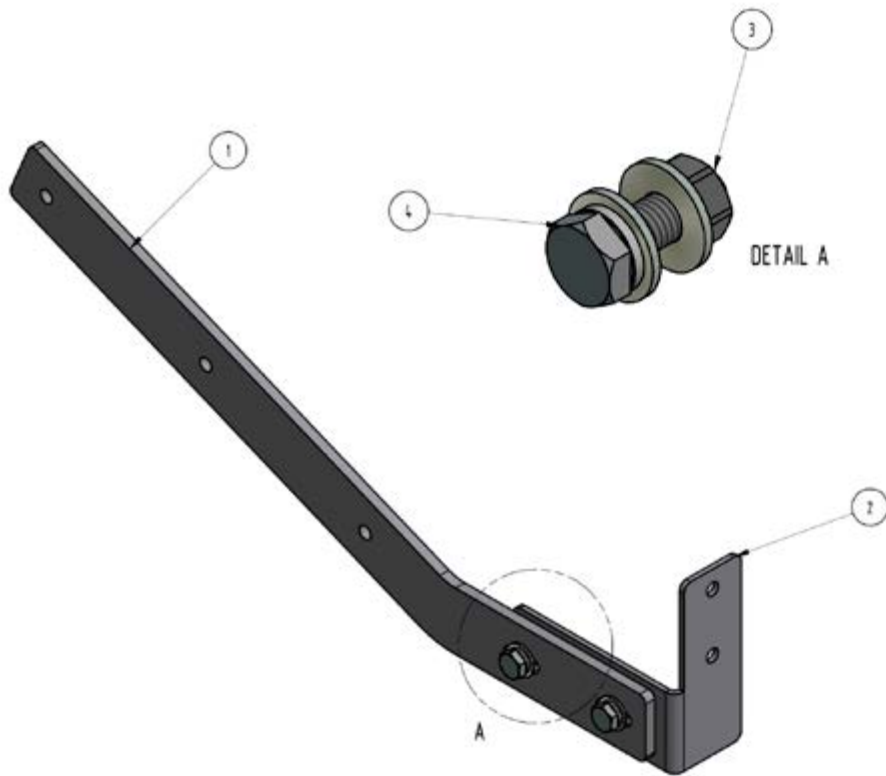

Figure A41
**Adjustable Fascia Bracket (See Figure A41)**